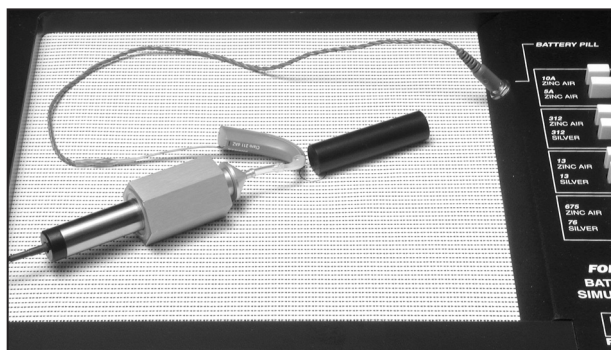

Figure 5.1.2B—Setup for aid testing/ equivalent substitution method
7. Exchange the position of the dummy microphone and the test microphone and plug the battery pill into the battery voltage supply. See Figure 5.1.2B.